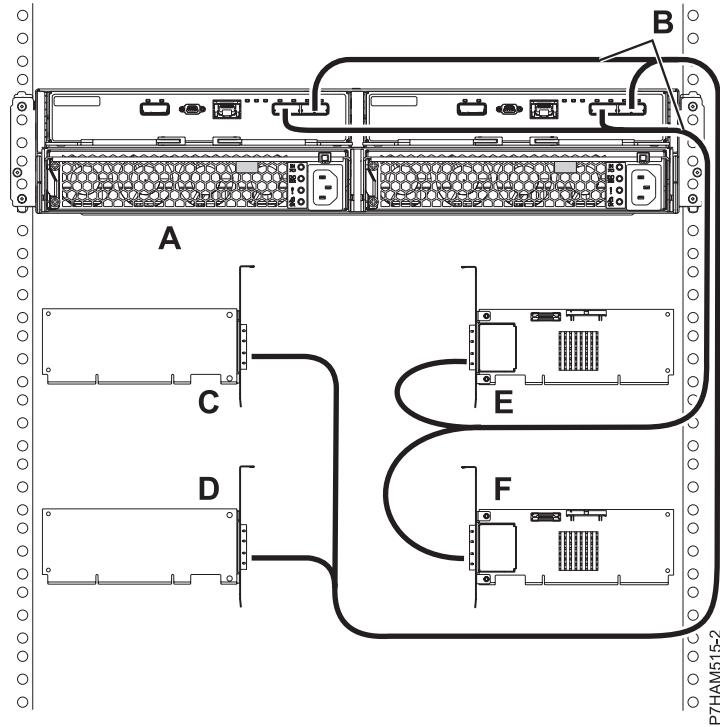

Figure 37. Mode 4 connection of one 5887 disk drive enclosure by using X cables to four independent SAS adapters
- q. Perform the mode 4 connection of one 5887 disk drive enclosure (A) by using X cables (B) to four independent SAS adapters as shown in Figure 37 on page 33.